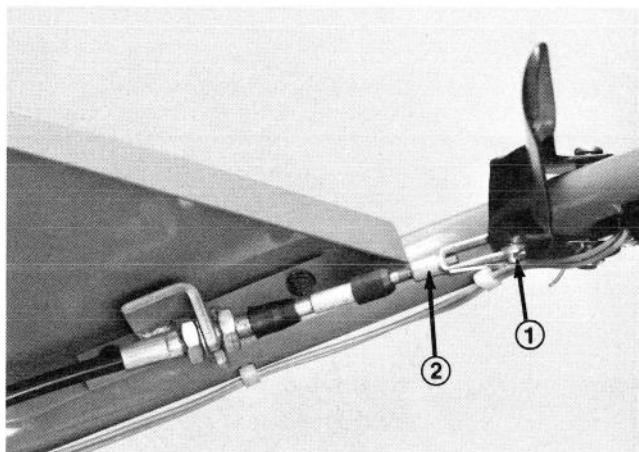

Figure 44
1. Remove cotter pin and clevis pin securing cable clevis to brake lever (Fig. 44).